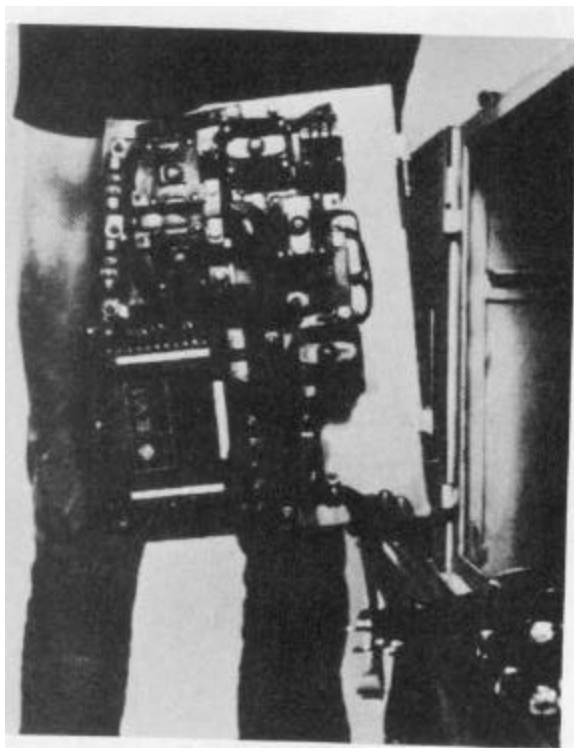

Figure 5-166
3. With electric door module open to approximately 80 degrees, lift module out of hinge sockets (Fig. 5-166).
4. Replace new module reversing steps (1) through (3) above.